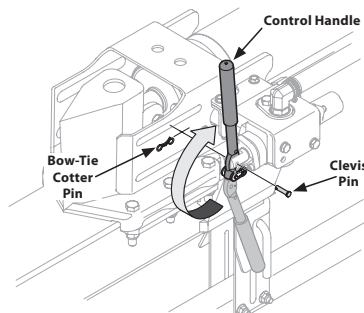

Figure 9
22. Remove the clevis pin and bow-tie cotter pin from the control handle. See Figure 9.
23. Rotate the control handle into the operating position and secure with the clevis pin and bow-tie cotter pin removed in step 22. See Figure 9.